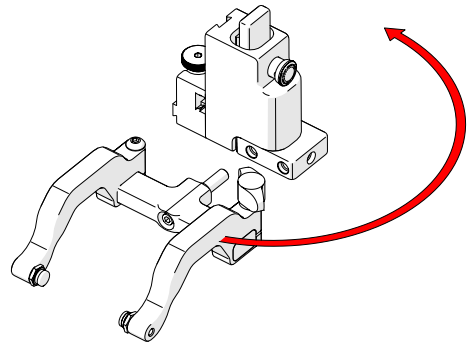

Fig. 135 - Orient to opposite side
2. Position the yoke and arms to the opposite side of the probe holder (*Fig. 135*).